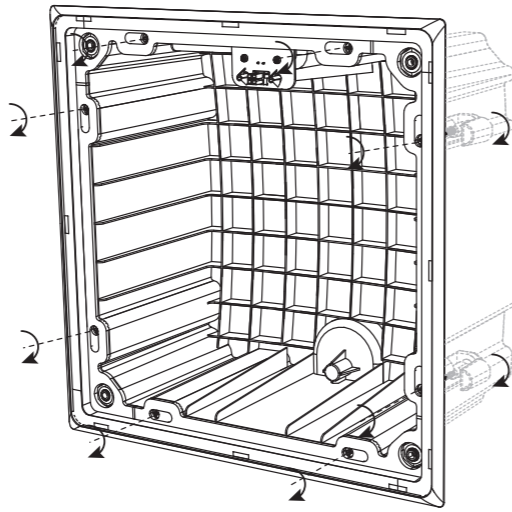

Fig. 18. Tighten the mounting clamp screws (X8)
7. Hold the back can in place in the ceiling, while tightening the mounting clamp screws clockwise (Fig. 18). Do this systematically until all eight clamps are in position and holding the back can securely to the ceiling drywall.